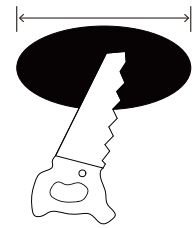

Fig. 1
1. Turn off the power before installation. Remove the existing fixture if applicable. Determine the location and necessary hole cut-out diameter using the supplied table and cut the ceiling hole with the listed approximate diameter, see Fig. 1